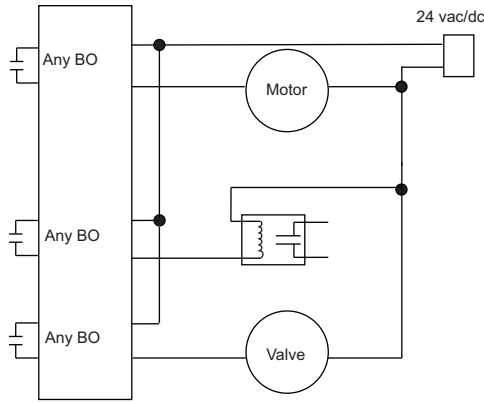

Fig. 3 — Connect Binary Output Wiring Screw Terminals
3. Connect the binary output wiring to the screw terminals on the TruVu™ and to the controlled device (see Fig. 3).